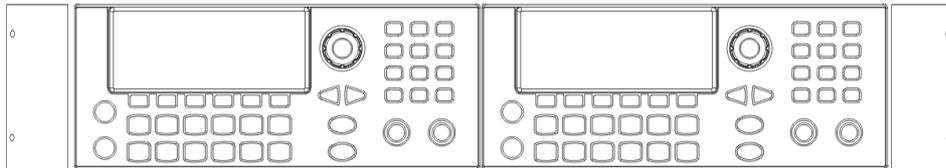

Figure 2-9
- b. This is for mounting two instruments side-by-side as shown in **Figure 2-9**.